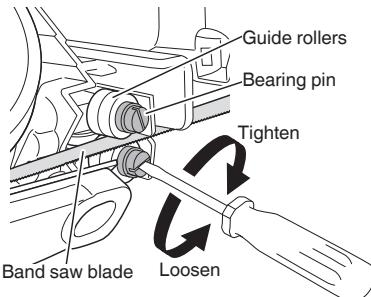

Fig. 15
4. Inspection of band saw blade guide rollers supports and adjustment of gaps (Fig. 15)